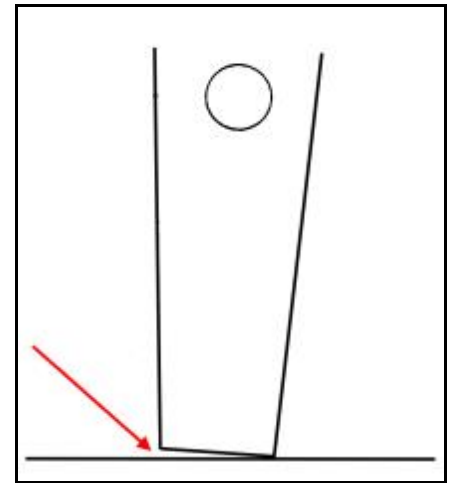

Figure 14: Visually checking tails for vertical alignment
3. Check vertical alignment: Initial vertical alignment can be sensed by feel, by pushing down lightly with the hand that's holding the shoulders and rocking the hammer slightly side-to-side to feel when the tail is sitting squarely on the deck. Then, after every 2 or 3 hammers you can check visually to see if the tails are sitting squarely on the deck. The smooth finish of the lower deck makes any tilt of the tail easily visible as shown in Figure 14. **Note:** in some cases the hammers should be